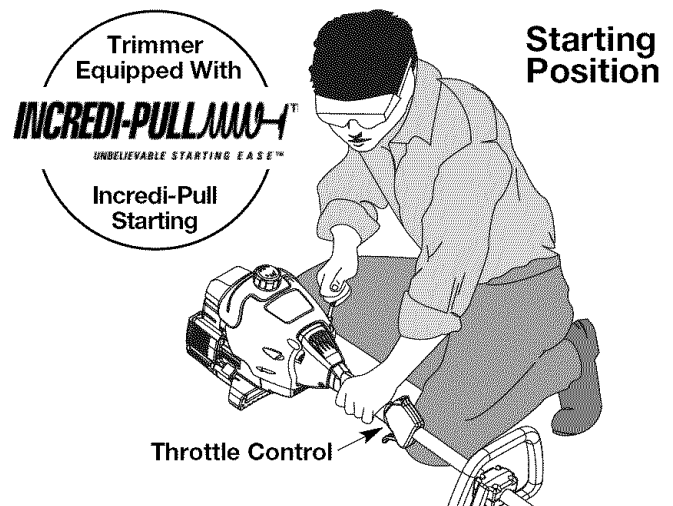

Fig. 6
WARNING: Avoid accidental starting. Make sure you are in the starting position when pulling the starter rope (Fig. 6). To avoid serious injury, the operator and unit must be in a stable position while starting.
4. Crouch in the starting position (Fig. 6). Do not squeeze the throttle, and pull the starter rope with a controlled and steady motion until the unit starts. Wait 10 to 15 seconds, then squeeze the throttle to control the cutting speed.